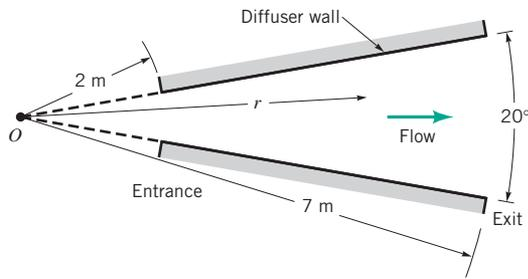

FIGURE P6.35
**6.35** Water flows through a two-dimensional diffuser having a  $20^\circ$  expansion angle as shown in Fig. P6.35. Assume that the flow in the diffuser can be treated as a radial flow emanating from a source at